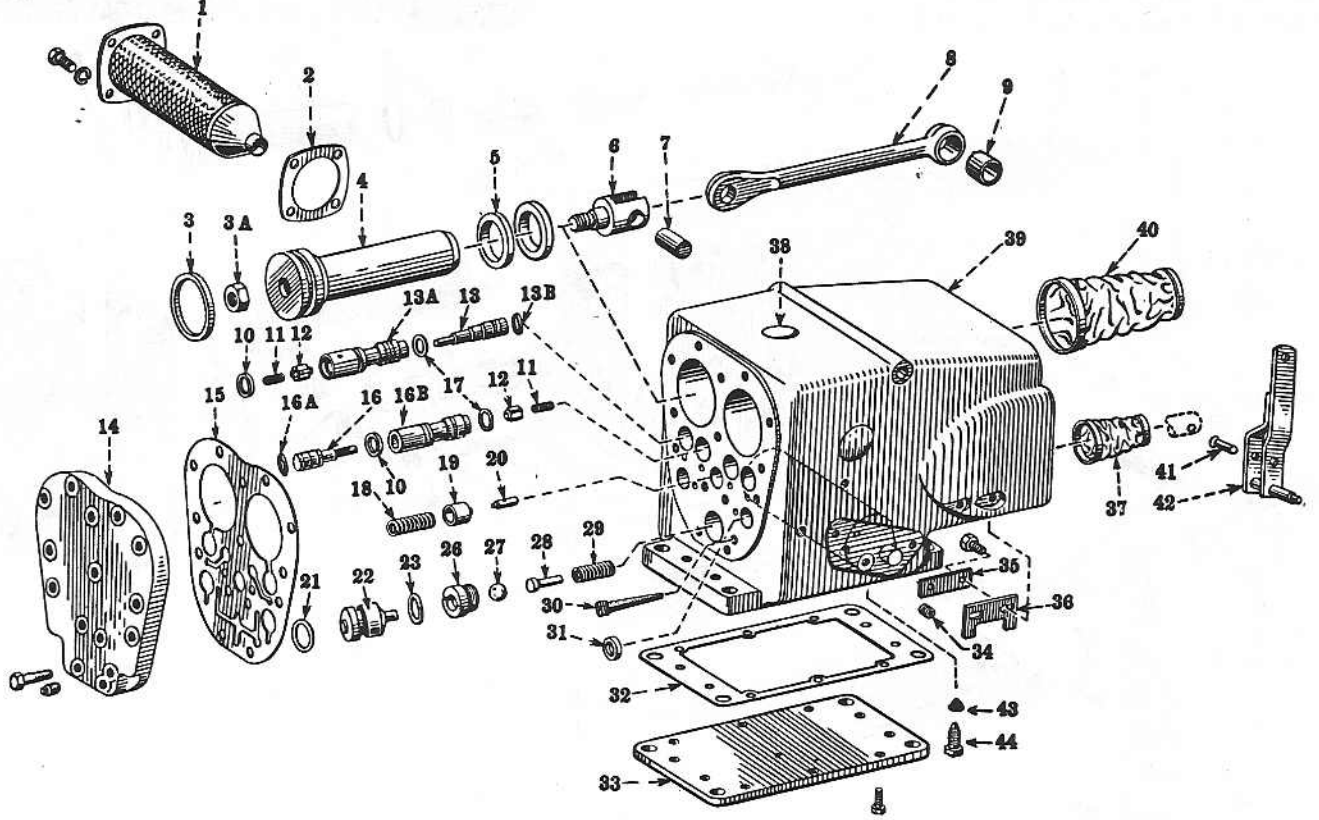

Fig. IH 523—Exploded view of series A and C—hydraulic cylinder and valves unit.
Fig. IH 527—Rear view of series A and C "Touch Control" cylinder block with cylinder head removed. Refer to Fig. IH 523 for legend. Control valves are shown at (50).